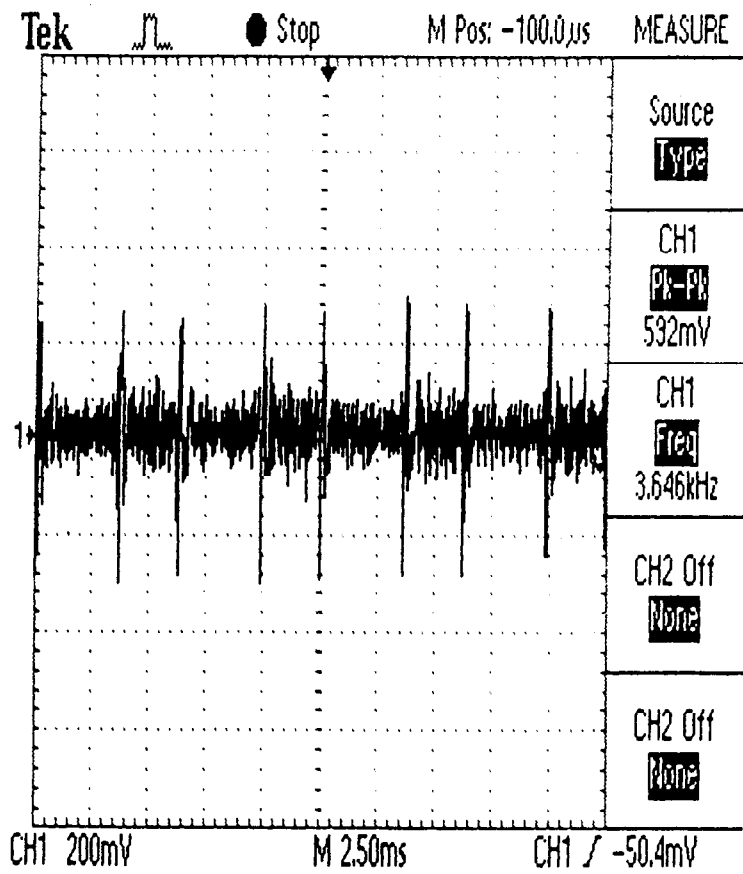

Figure 7
- iv When a label/tag is detected, the reading will be similar to that of figure 7.